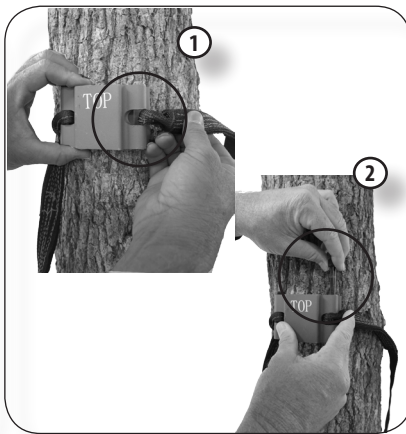

Figure 20
STEP 7: Insert the loop end of the ratchet strap into the right side of the receiver assembly and secure the loop by passing the bolt through the loop and threading it into the receiver as shown in Figure 20. Make certain the strap is not twisted.